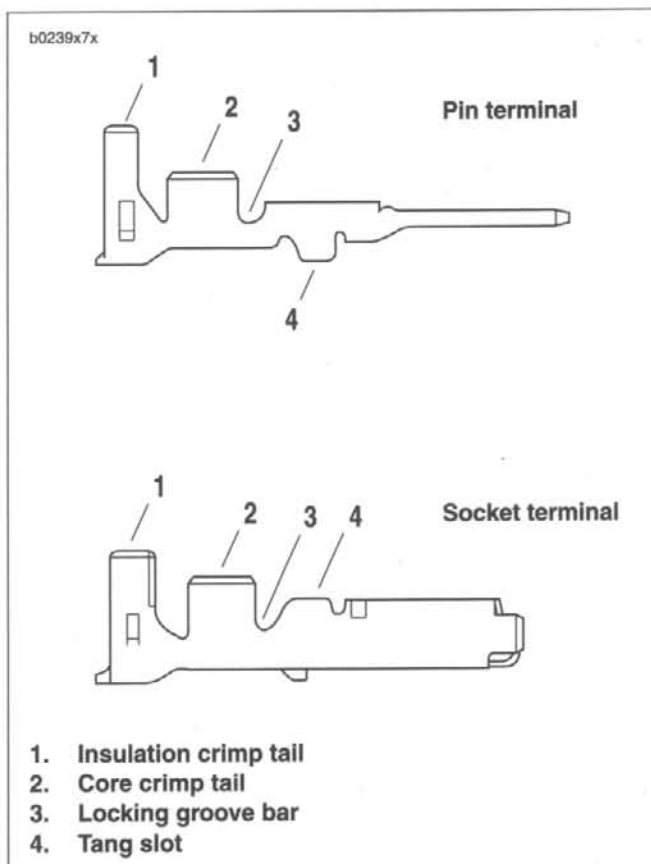

Figure 7-86. Crimps
6. See Figure 7-86. Inspect the quality of the core and insulation crimps. Distortion should be minimal.